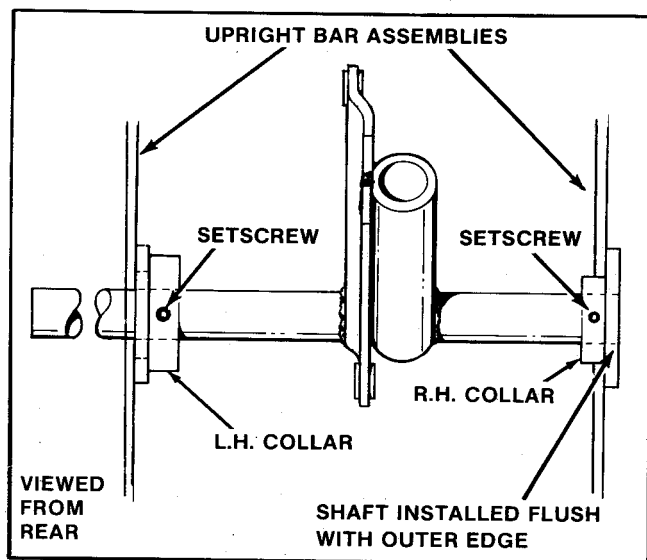

Figure 2
1. Place set collars on the shaft of the lift lever bracket, the larger set collar on the left side, the smaller set collar on the right side of the shaft. The lip (small o.d.) of the left (large) set collar should be facing outward, so that it will fit into the left upright bar assembly on the tractor (figure 2).
2. Insert the shaft of the lift lever bracket through the hole of the left upright bar assembly, then through the hole of the right upright bar assembly (figure 2).
3. With the right end of the lift lever shaft flush with the edge of the right upright bar assembly, tighten the right collar setscrew so that there is no side play in the shaft (figure 2).
4. Install the left collar so that the lip (small o.d.) fits flush inside the hole in the left upright bar assembly. Tighten the setscrew (figure 2).